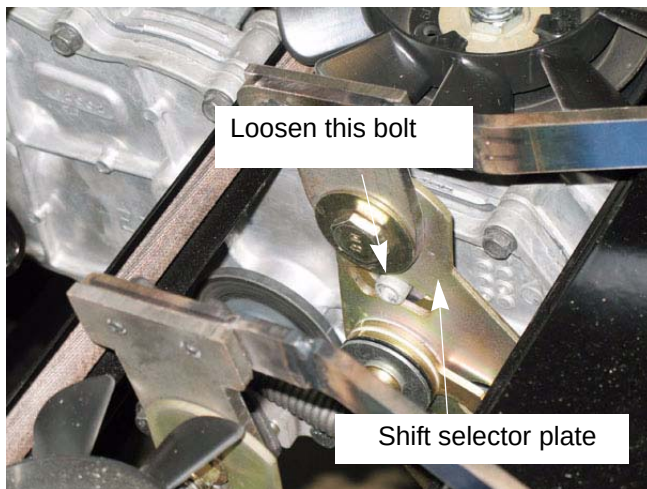

Figure 6.5
- 5a. Loosen the socket headed cap screw in the slot of the shift selector plate. See Figure 6.5.